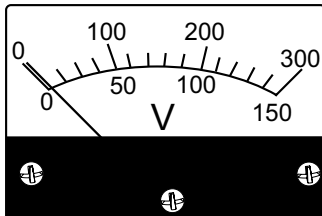

Figure 69. AC Voltmeter (Zero Volts)
- Verify that the AC voltmeter (Figure 69) on the welder-generator reads zero volts.